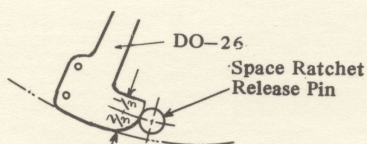

Fig. 34
- (7) Adjust the position of DO-31 (Space Ratchet Releaser) by loosening DO-33 (Screw) to provide more than two third (2/3) in width of overlapping for the place of Space Ratchet Release Pin against DO-26. (Fig. 34, 35)
- (8) Adjust the clearance ⑦ by bending DO-31 to obtain 0.1 to 0.3 mm of clearance ⑧ when DO-31 releases DN-18 (Space Ratchet) from DN-3 (Space Ratchet Wheel) because Space Ratchet Release Pin is pushed by DO-26 while Carriage is returned by hand.